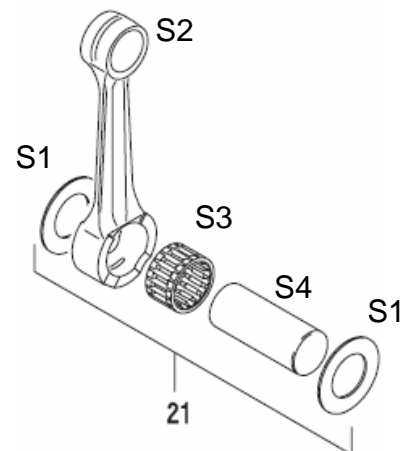

Figure 21
- ➔ Slide the new con rod from the spare crank pin onto the installed crankpin, (see D7) follow the order of parts to be installed as shown in figure 21.